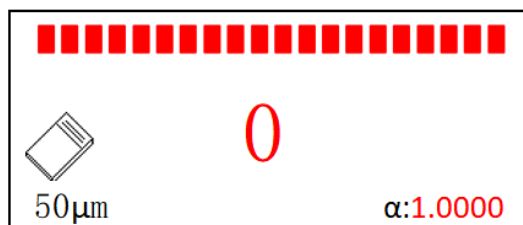

Figure 29: Incorrect Calibration Substrate
- "0" (Figure 29): Incorrect substrate; please verify the substrate type;